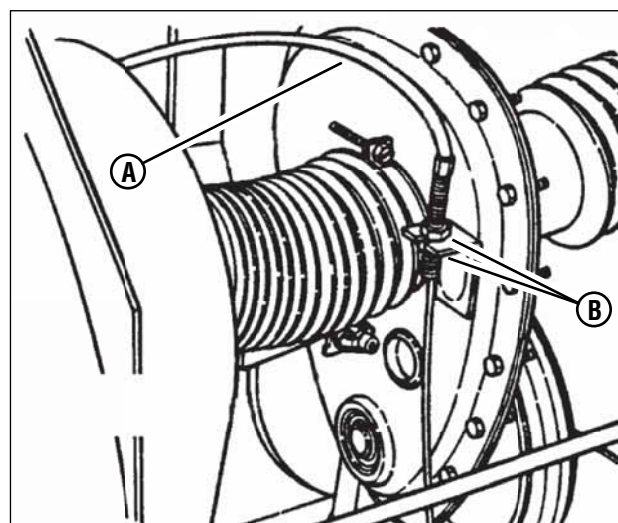

Figure 40: Brake cable adjusting nuts
5. If the measurement is not 3/4", loosen the two jam-nuts (A, Figure 40). Hold the clutch/brake cable (B) to the chain case bracket.
6. Adjust the cable up or down using the jam-nuts to obtain a distance of 3/4" between the end of the clutch/brake cable (adjustment shown in inset of Figure 40) and the bottom of the housing.